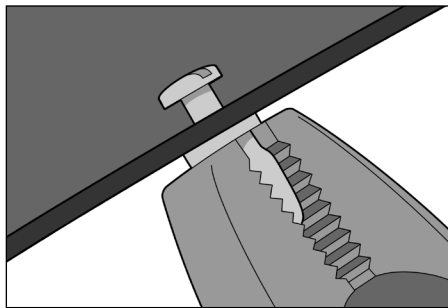

Fig. 15
4. Carefully align the assembly to the hole and force the pin neck into the hole (Fig. 15).